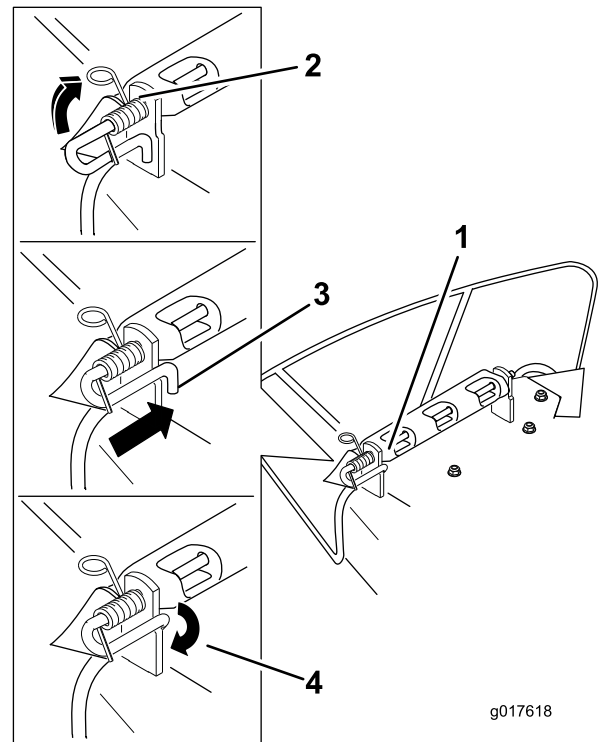

Figure 68
6. Lift the loop end of the spring and place it into the notch on the deflector bracket (Figure 68).
7. Secure the rod and spring assembly by twisting it so the short end of the rod is placed behind the front bracket welded to the deck (Figure 68).
3. Position the new discharge deflector with the bracket ends between the welded brackets on the deck as shown in Figure 68.